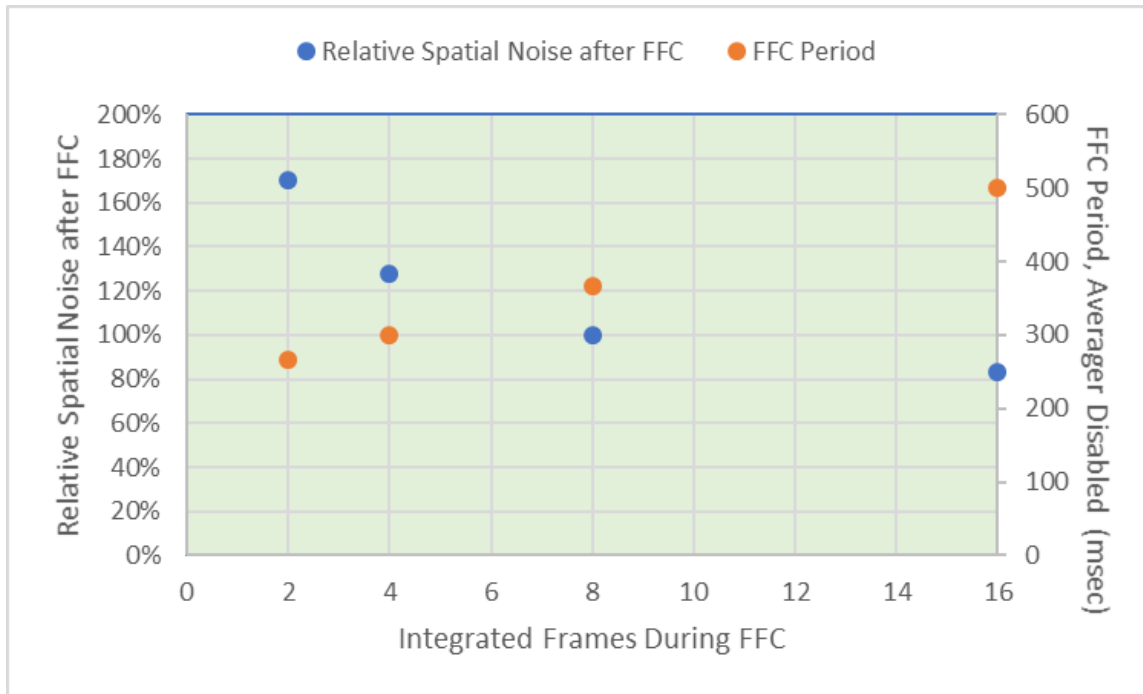

FIGURE 10: RELATIVE SPATIAL NOISE AFTER FFC VS. NUMBER OF INTEGRATED FRAMES
- **FFC Integration Period:** During each FFC event, the camera automatically integrates n frames of sensor data to generate the resulting correction term. **FFC Integration Period** specifies the value of n , either 2, 4, 8 or 16. Utilizing fewer frames decreases the FFC period (with diminishing returns due to overhead) whereas utilizing more frames reduces the effect of temporal noise on this spatial noise correction. Figure 10 quantifies the benefit. The factory-default value is 8 frames. Note that with averager enabled (i.e., 30Hz output rather than 60Hz output), a value of 8 frames represents twice as much time as with averager disabled. That is, for the same value of **FFC Integration Period**, the time required to complete FFC is approximately twice as long with averager enabled.